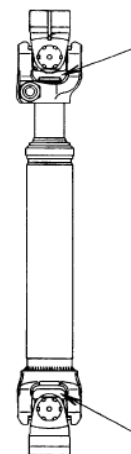

Fig. 21: Universal joint
- When a ratchet belt is used, pass the belt through the yoke spaces if possible (see arrows in Fig. 21).